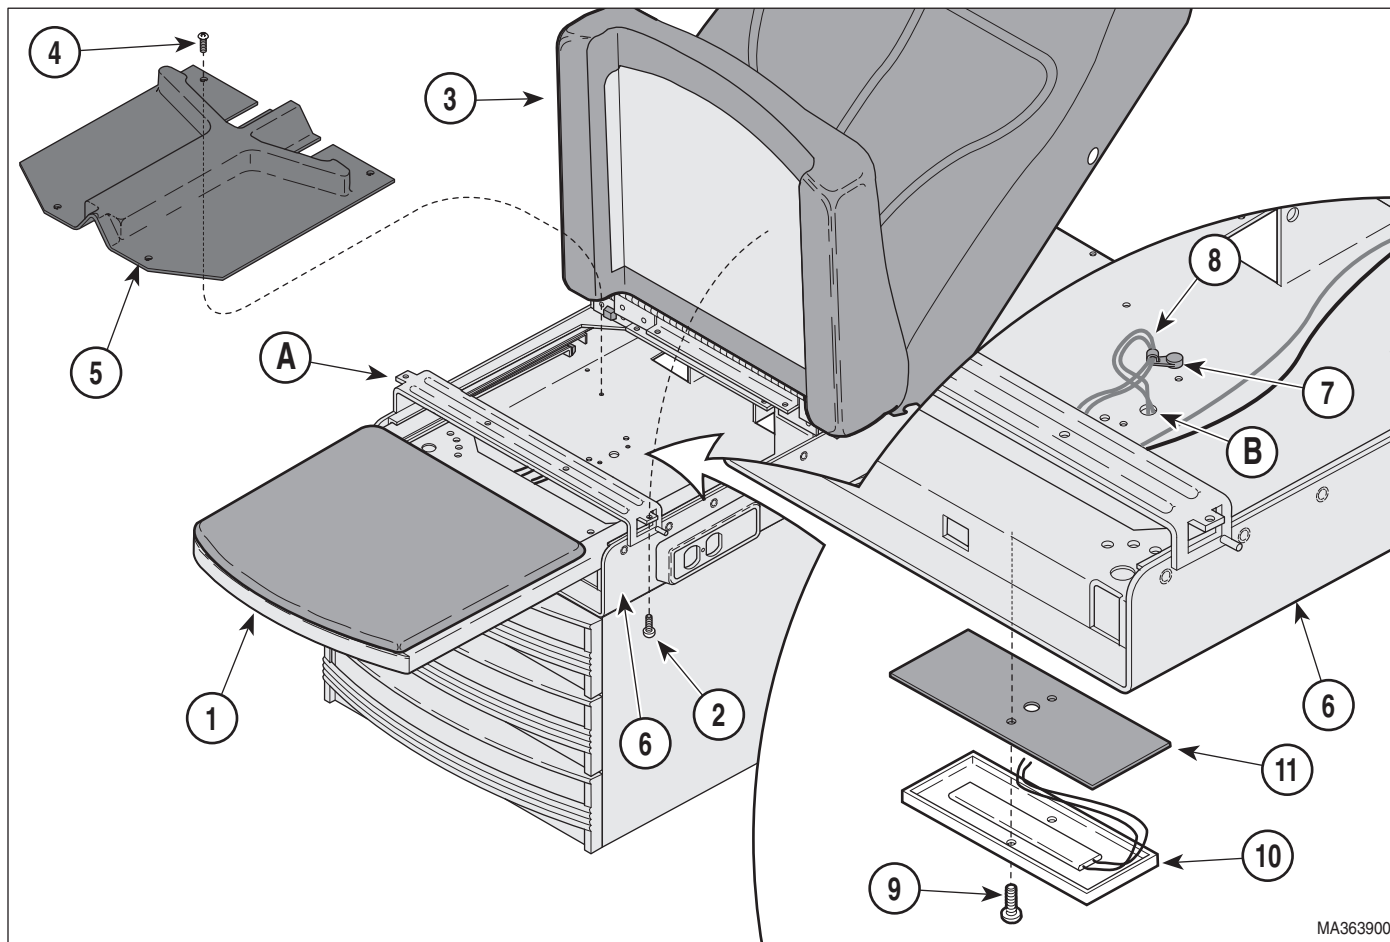

Figure 4-12. Heater Plate Removal / Installation
- (1) Unplug table power cord from wall outlet.
- (2) Remove two drawers from foot end of table.
- (3) Remove the heater ON / OFF switch (Refer to para 4.7).
- (4) Pull the footrest section (1, Figure 4-12) out as far as it will go.
- (1) Route the heater plate wires (8, Figure 4-12) thru the wire hole (B) in the upper wrap weldment (6).